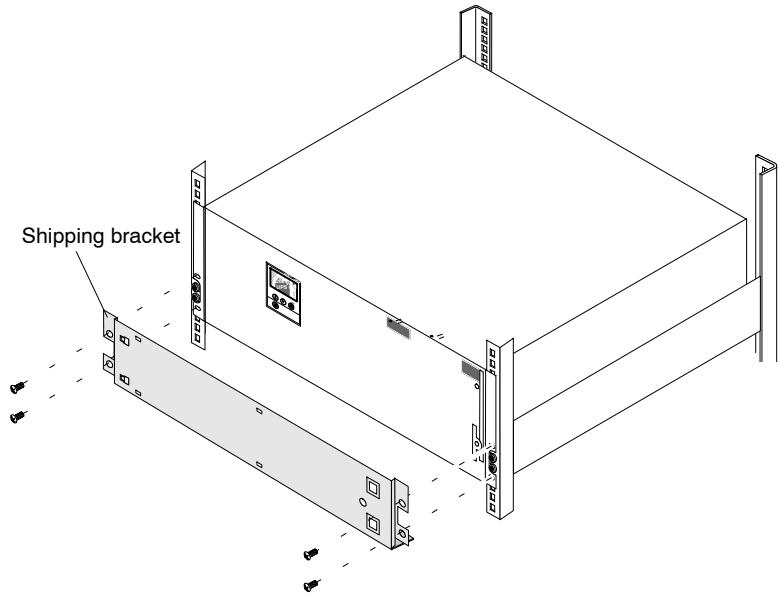

Figure 23. Shipping Bracket
4. Align the shipping bracket with the front of the UPS, with the support lip under the UPS. See Figure 23.
5. Secure the shipping bracket and the UPS to the rack cabinet with the four screws that you removed in Step 3, as shown in Figure 23.
2. Remove the four screws that secure the shipping bracket and the UPS to the rack cabinet. Keep the four screws. See Figure 23.